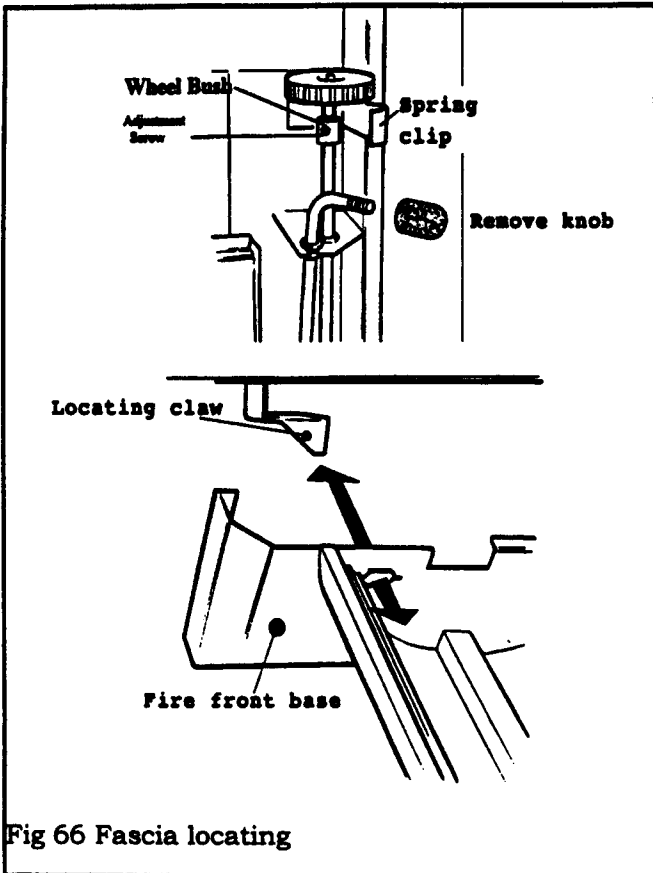

Fig 66 Fascia locating
19.1.1 Locate slots in the fascia over the claws at the sides of the main appliance (fig. 66).